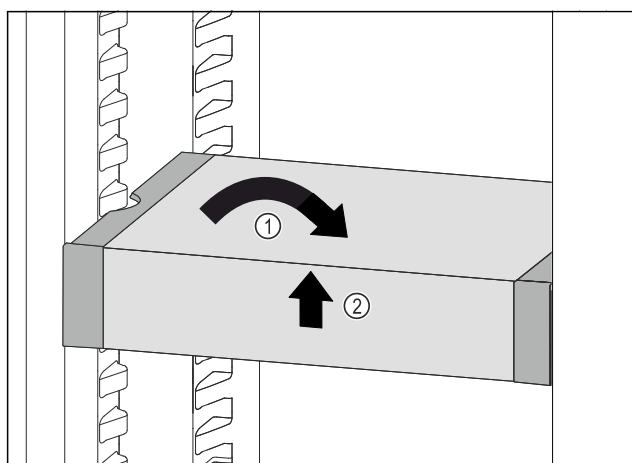

Fig. 142
- Set VarioSafe straight. Fig. 142 (1)
- Lift VarioSafe at the front. Fig. 142 (2)